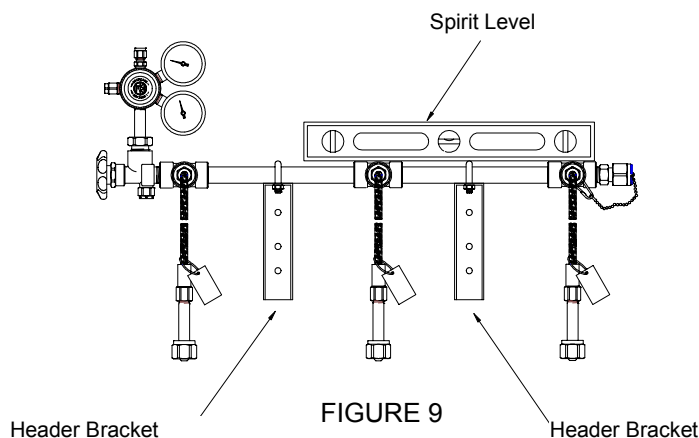

FIGURE 9
8. Using a level, mark the placement of mounting brackets while keeping the header on a horizontal plane. (Figure 9)